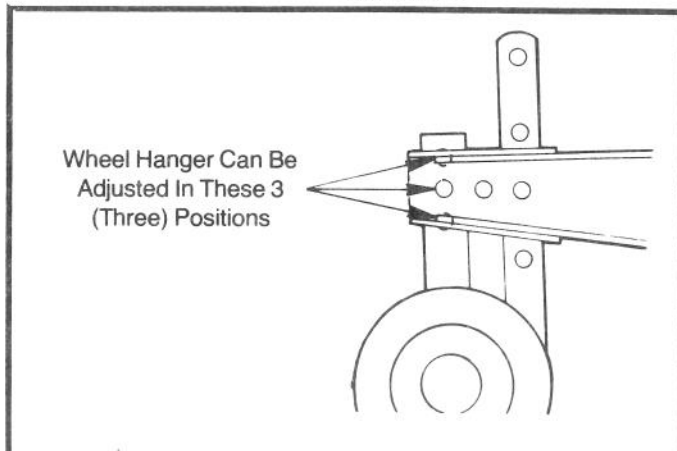

FIGURE 12
To provide a comfortable handle bar height at various tilling depths, the wheel hanger can be adjusted to one of three (3) positions, Fig. 12.